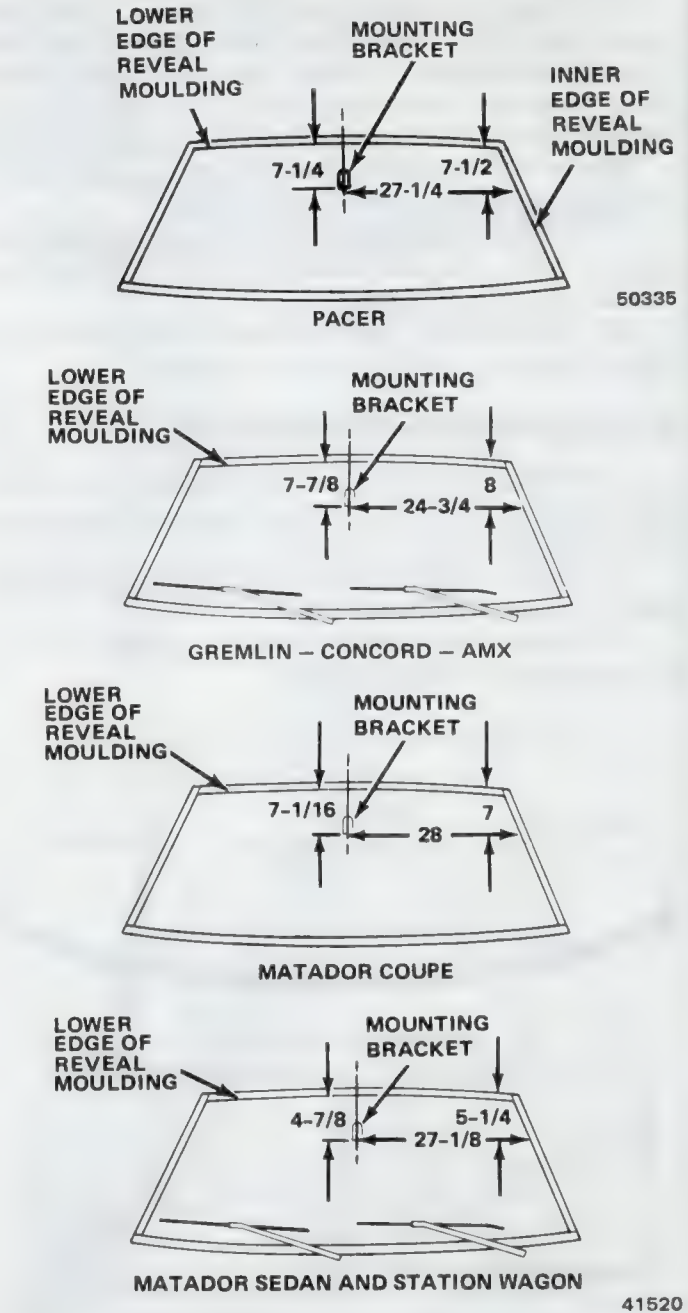

Fig. 3N-15 Windshield Mounted Rear View Mirror Bracket Location Measurements (Inches)
(6) Apply a generous amount of accelerator, supplied with kit, to mirror bracket mounting surface. Allow five minutes to dry.
(7) Apply a thin film of accelerator to windshield. Allow one minute to dry.
(8) Apply one drop of adhesive at center of mirror bracket bonding surface. Use bottom of adhesive tube to distribute adhesive evenly over entire surface.
(9) Position bottom straightedge of bracket on horizontal line, while centering bracket on vertical line (fig. 3N-15). Press bracket to glass and hold firmly for one minute. Be sure bracket is properly located; adhesive sets quickly.